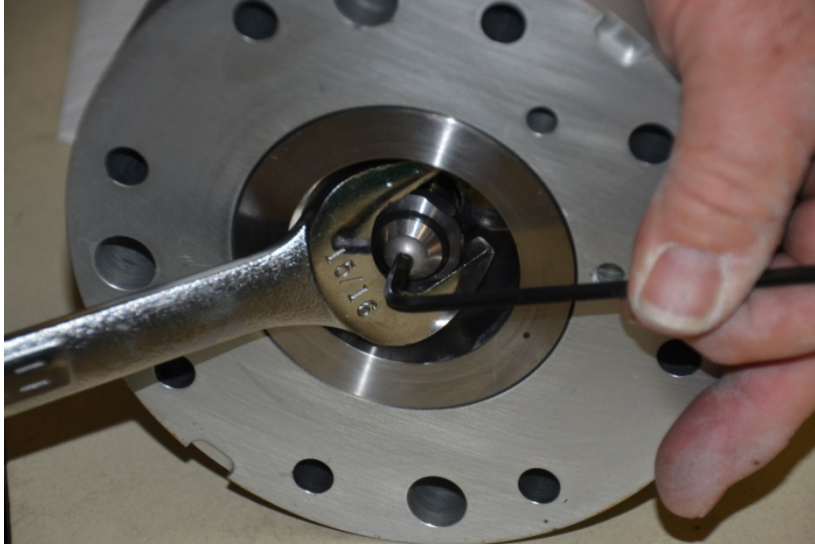

Figure 4-9. Hold Actuator Shaft with Wrench when Tightening or Loosening the Retaining Screw
2. To remove the poppet from the actuator, place a 15/16" wrench on the hex head of the actuator shaft to prevent rotation. Use the 5/32" hex key to unscrew the button head poppet retaining screw (Figure 4-9).
4. Hold the actuator shaft with the 15/16" wrench when tightening the poppet retaining screw (Figure 4-9). Use the 5/32 Allen hex key, torque the retaining screw to (8.6 to 9.9) N•m [(76 to 88) lb-in].